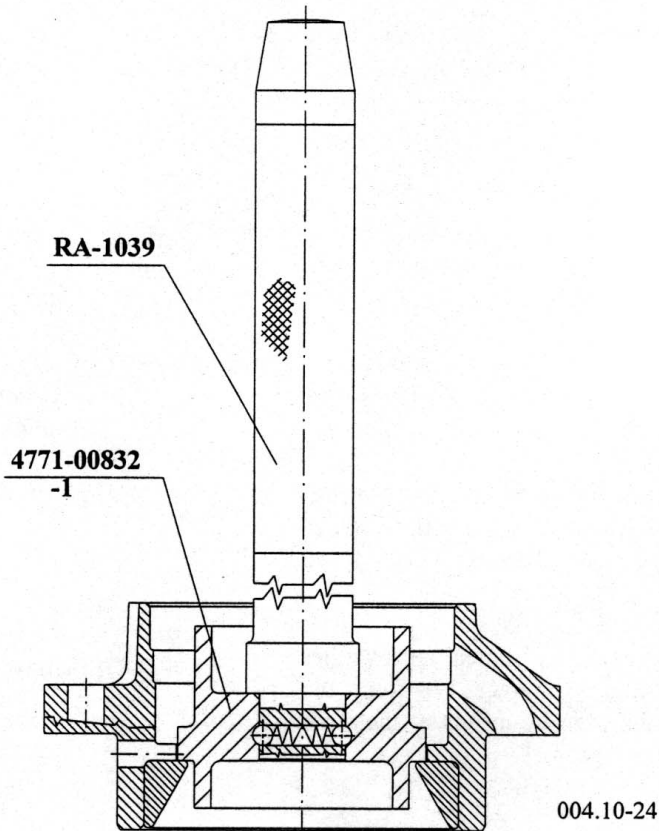

Fig. 5.: DRIVING OUT THE INNER TAPER ROLLER BEARING OUTER RACE
Turn the bearing cage and drive out the inner taper roller bearing outer race (12) by means of the tools shown (Fig. 5).
Before pressing it onto the drive pinion subassembly the bearing cage as shown in Fig. 5 on the loose-fit master shaft in order to determine the thickness of the spacer to be installed, while tightening the flanged nut to the specified torque.